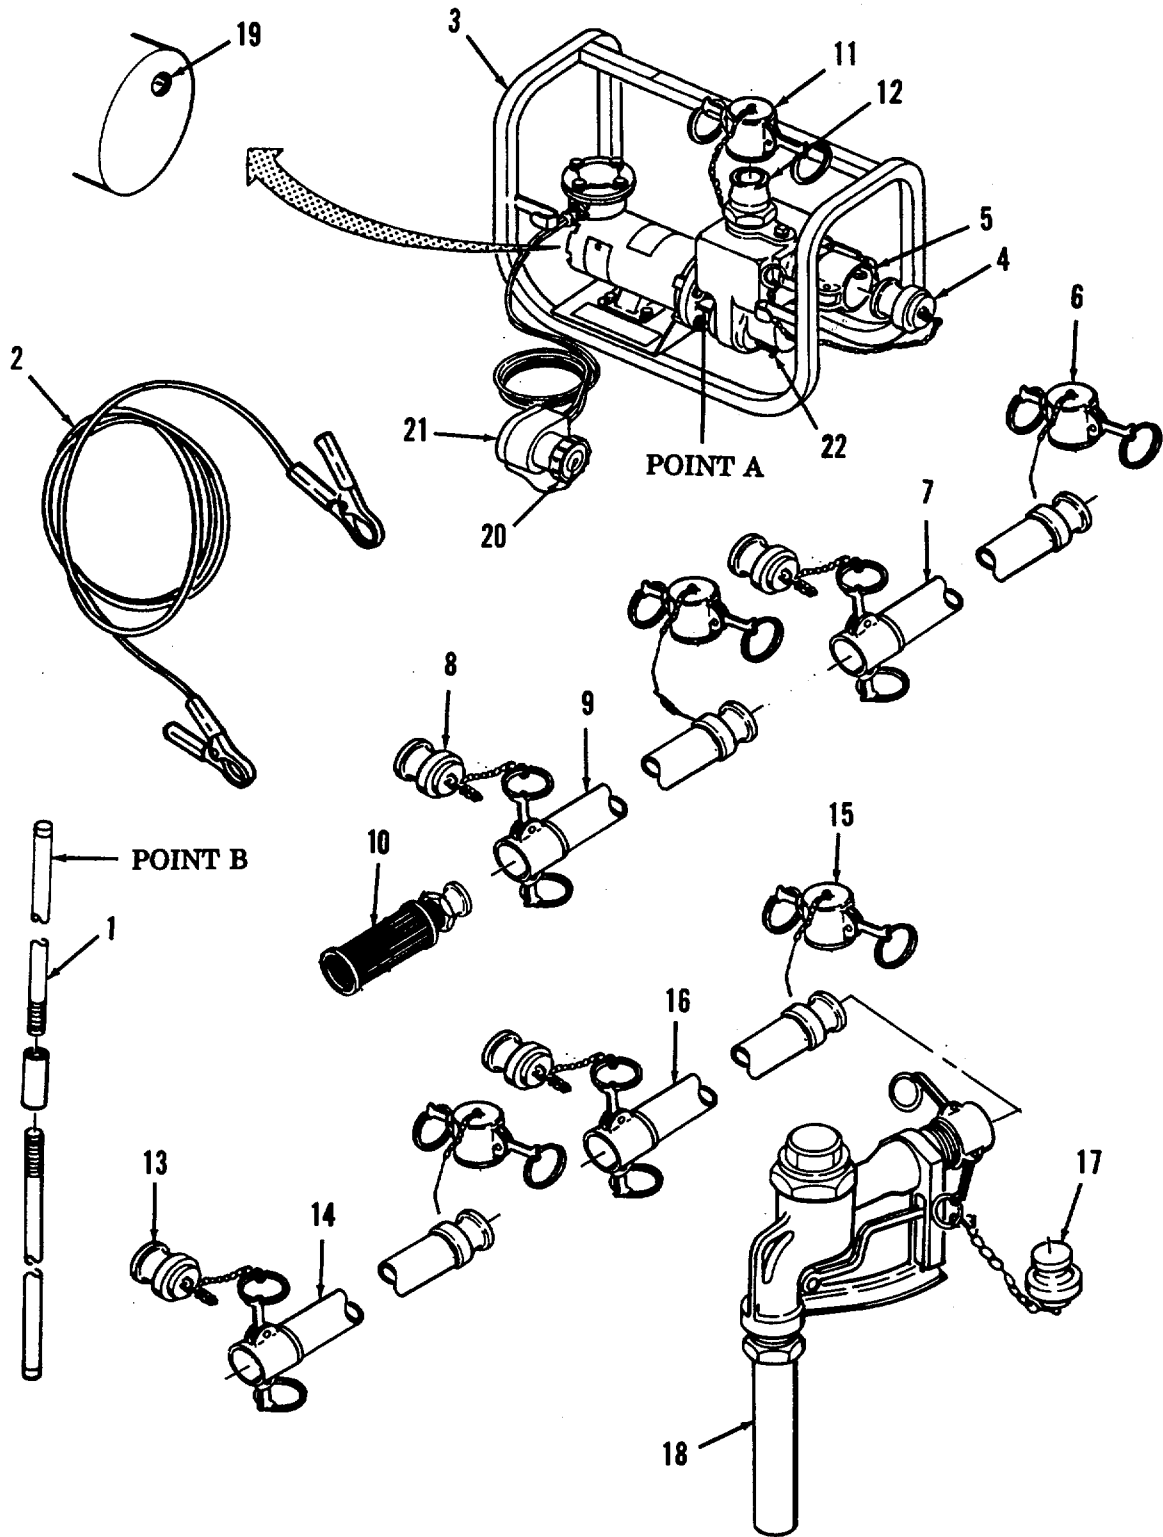

Figure 2-3. Assembly of Pump Assembly.
**2.9. ASSEMBLY AND PREPARATION FOR USE.** This paragraph shows how to assemble the pump assembly and prepare it for use. The steps provided and the illustrations shown are for a typical pump set up. Always be sure that you follow your local standard operating procedures (SOP) first if there is a conflict between the steps shown here and your SOP. (Refer to Figure 2-3).
**2.12. PREPARATION FOR MOVEMENT.** For general preparation of the pump assembly for movement, perform the following steps (Refer to Figure 2-3).
- a. Disconnect slave connector (21) from the 24 volt direct current power supply and place dust cap (20) onto slave connector.